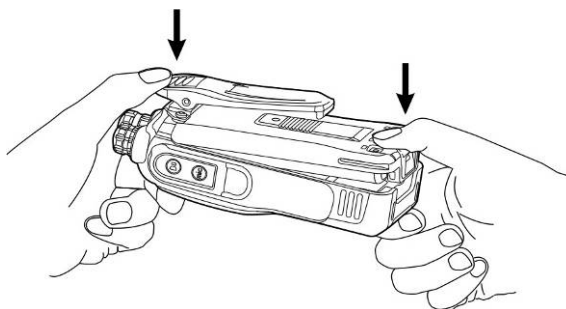

Figure 2
- ② Press the bottom of the battery until a “click” is heard to fasten the battery on the bottom of the radio. See figure 2.